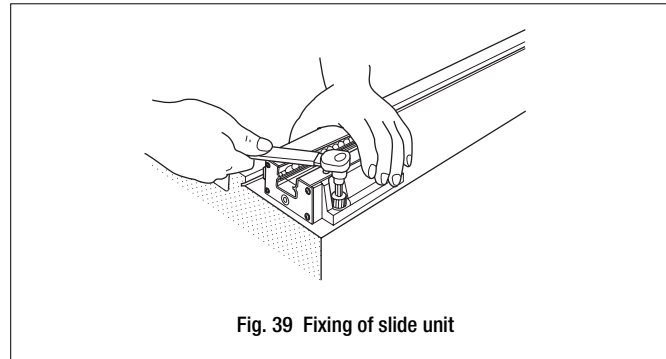

Fig. 39 Fixing of slide unit
- Correctly fit the reference mounting surfaces of Linear Way I and II slide units to the mating reference mounting surfaces of the table and fix the slide units as shown in the figure. (See Fig. 39.)